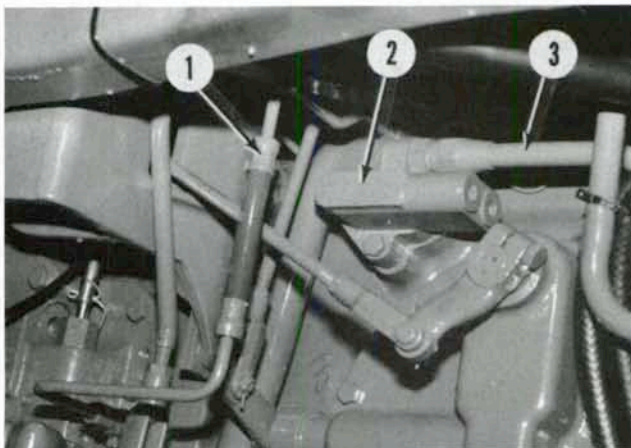

Fig. 192—Low pressure hydraulic system pressure regulating valve is mounted on right side of transmission housing.
**143. R&R AND OVERHAUL.** To remove regulating valve (2—Fig. 192), first disconnect oil lines to valve, then remove cap screws retaining valve to transmission housing.